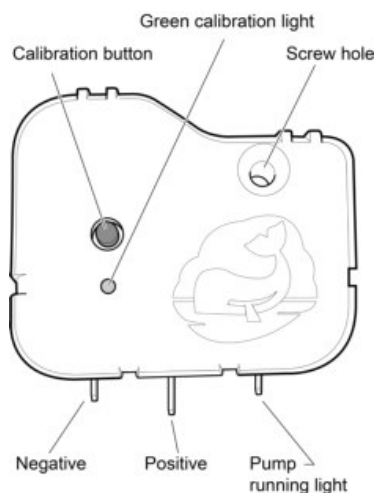
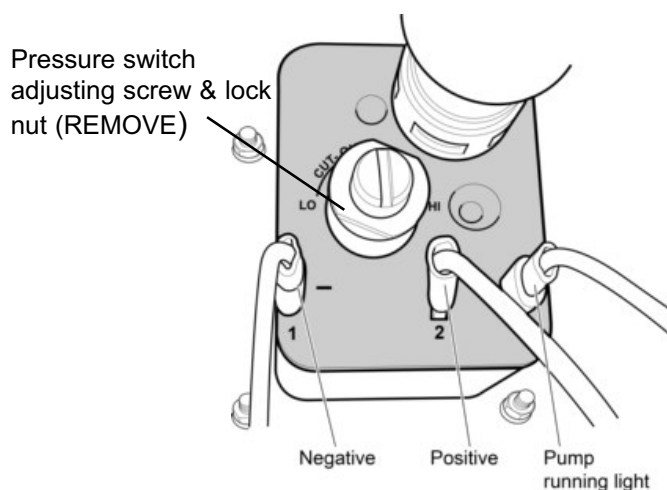

Fig. 1 Watermaster® IC features
Fig. 2 Wiring connections Watermaster® socket
| Fig. 1 | Watermaster® IC Features |
| Fig. 2 | Wiring Connections Watermaster® Socket |
Step 2 - Unplug the spade connections on the water inlet socket – ensuring that you note the order of wires for reconnection with the Watermaster® IC (see Fig. 1 & Fig. 2)
Step 3 - Unscrew and remove the pressure switch adjusting screw and locking nut (see Fig. 2)